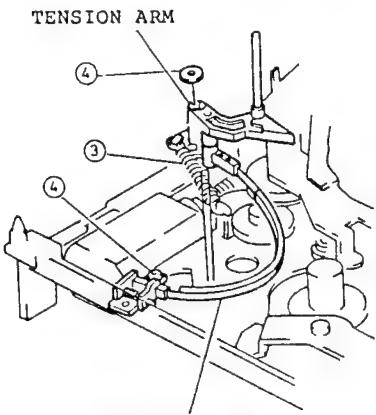

Fig. 2-75
3. Remove the spring between the tension arm and chassis. (See Fig. 2-75)
4. Remove one (1) washer holding the tension arm and one (1) screw holding the tension band.
4. Remove the tension arm and tension band. (See Fig. 2-75)
5. Remove the tension arm and tension band. (See Fig. 2-75)
(See Fig. 2-75)